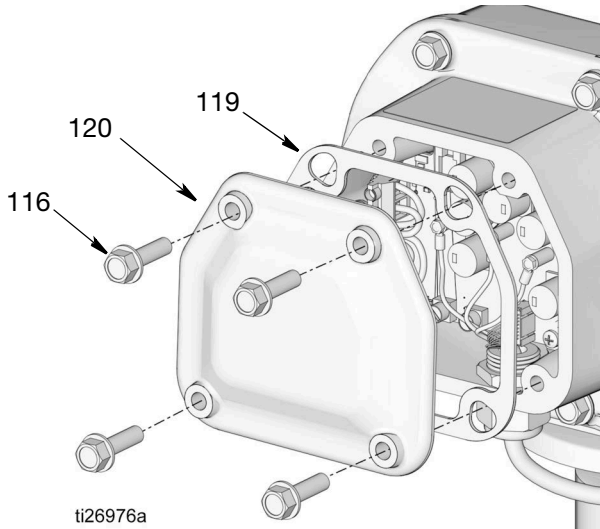

FIG. 72
5. Replace the motor control board gasket (119) and the cover (120) with the screws (116) (FIG. 72), being careful not to pinch any wires. Tighten the screws securely. Torque to 17 - 19 ft-lb (23 - 25 N•m).